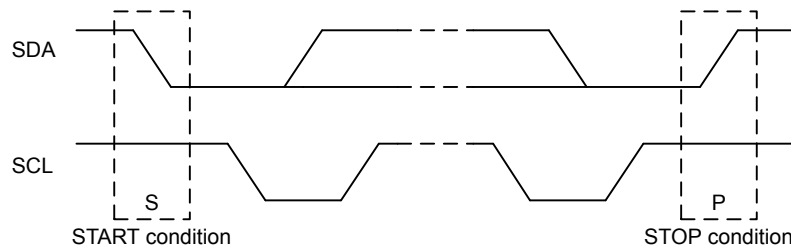

Figure 15.4. I2C START and STOP Conditions
START and STOP conditions are used to initiate and stop transactions on the I²C-bus. All transactions on the bus begin with a START condition (S) and end with a STOP condition (P). As shown in Figure 15.4 I2C START and STOP Conditions on page 398, a START condition is generated by pulling the SDA line low while SCL is high, and a STOP condition is generated by pulling the SDA line high while SCL is high.